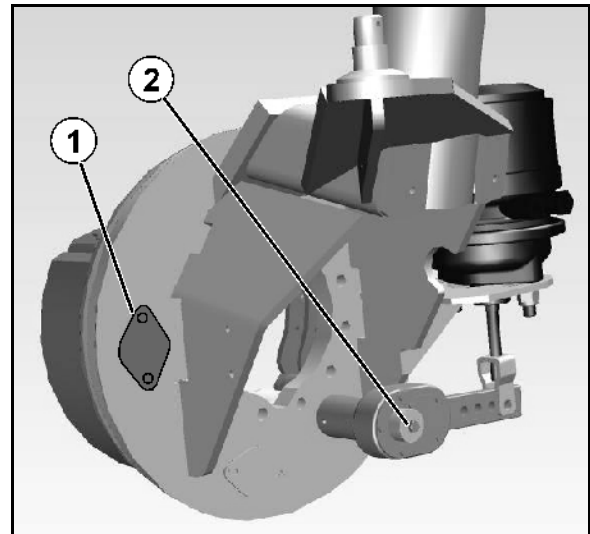

Fig. 159
There is an inspection window (Fig. 159/1) in the anchor plate of the brake drum in order to check the wear of the brake linings.
2. Screw the bolt (Fig. 159/2) in completely and loosen by a ¼ turn.